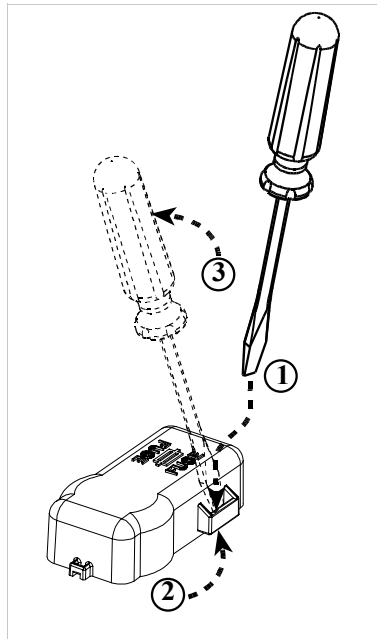

Figure 3-2 Removing the fuse cover
1. Lift the fuse cover off as shown in Figure 3-2.